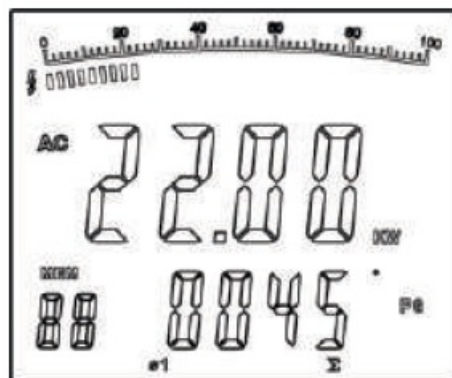

Figure 8
2. If necessary, press Σ to get the sum of watts as figure 8.